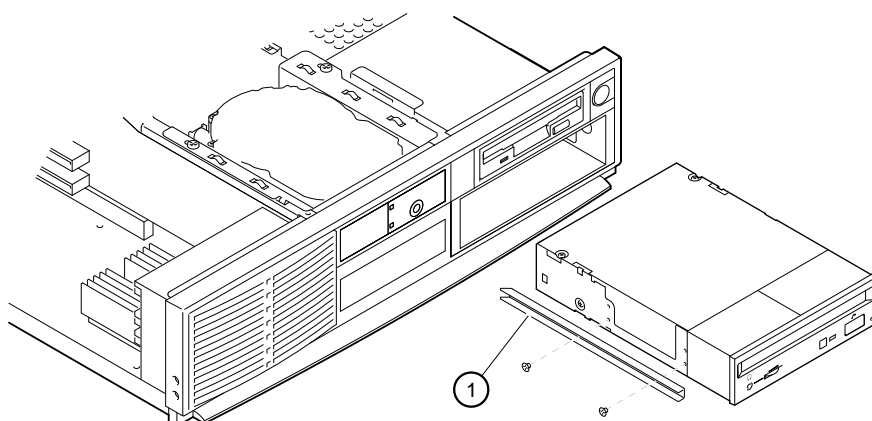

Figure 3-17. Drive Installation
4. Mount the holder ① to the side of the drive with two screws, as Figure 3-17 shows.